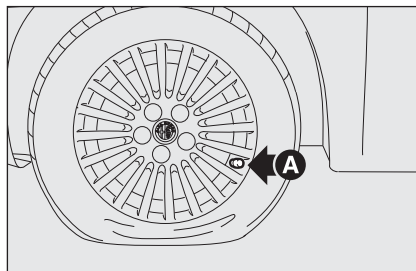

fig. 16
- set the wheel to be repaired with valve **A-fig. 16** in the position shown in the figure, **then pull up the handbrake**, take the quick tyre repair kit and put it on the ground near the wheel to be repaired;